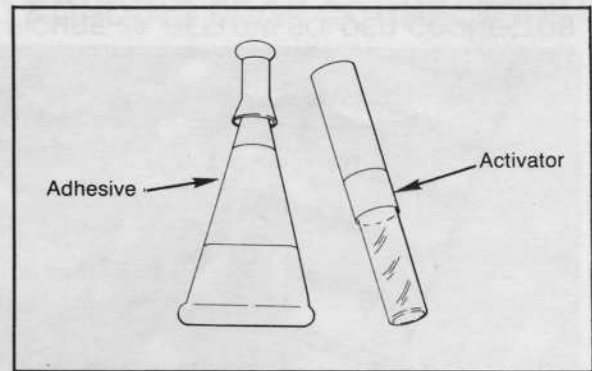

FIGURE 24. ACTIVATOR AND ADHESIVE
STEP 21. Apply Activator to the area of the board where the Edge Connector is to be placed. Apply a light coating of Adhesive to the Edge Connector (see Figure 24). Position Connector to board, pressing firmly to squeeze excess Adhesive. **NOTE:** Do not use Activator if it has become discolored.